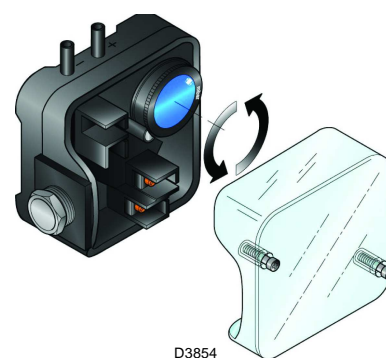

Fig. 35
- Adjust the air pressure switch (Fig. 35) to the start of the scale.
Adjust the air pressure switch after performing all other burner adjustments with the air pressure switch set to the start of the scale (Fig. 35).